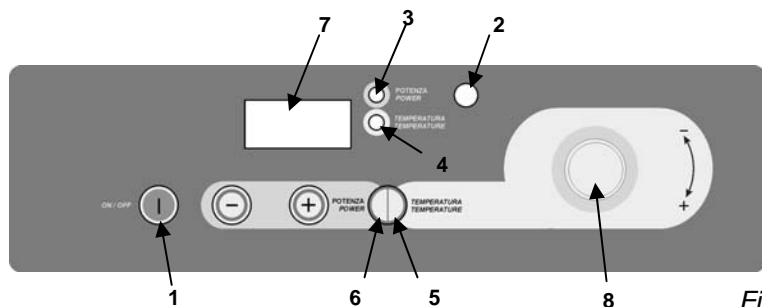

Fig.n.1
5. Select required function “Heating Power or Temperature” (*Fig. n.1 – ref. 6-5*). After selecting the function a corresponding light comes up on the display (*Fig. n.1 – ref. 3-4*).